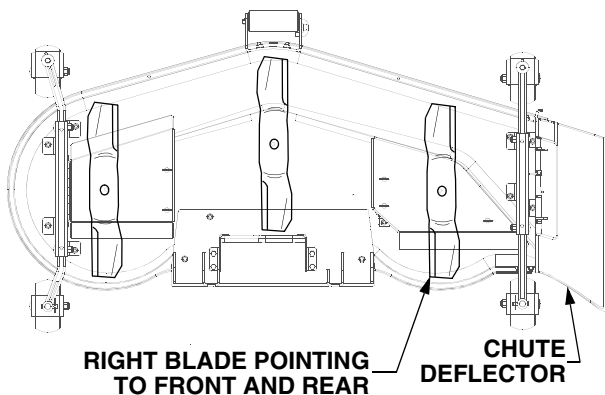

Figure 56
- Carefully rotate the outer cutting blades so that the ends of the blades point to the front and rear of the deck. See Figure 56.